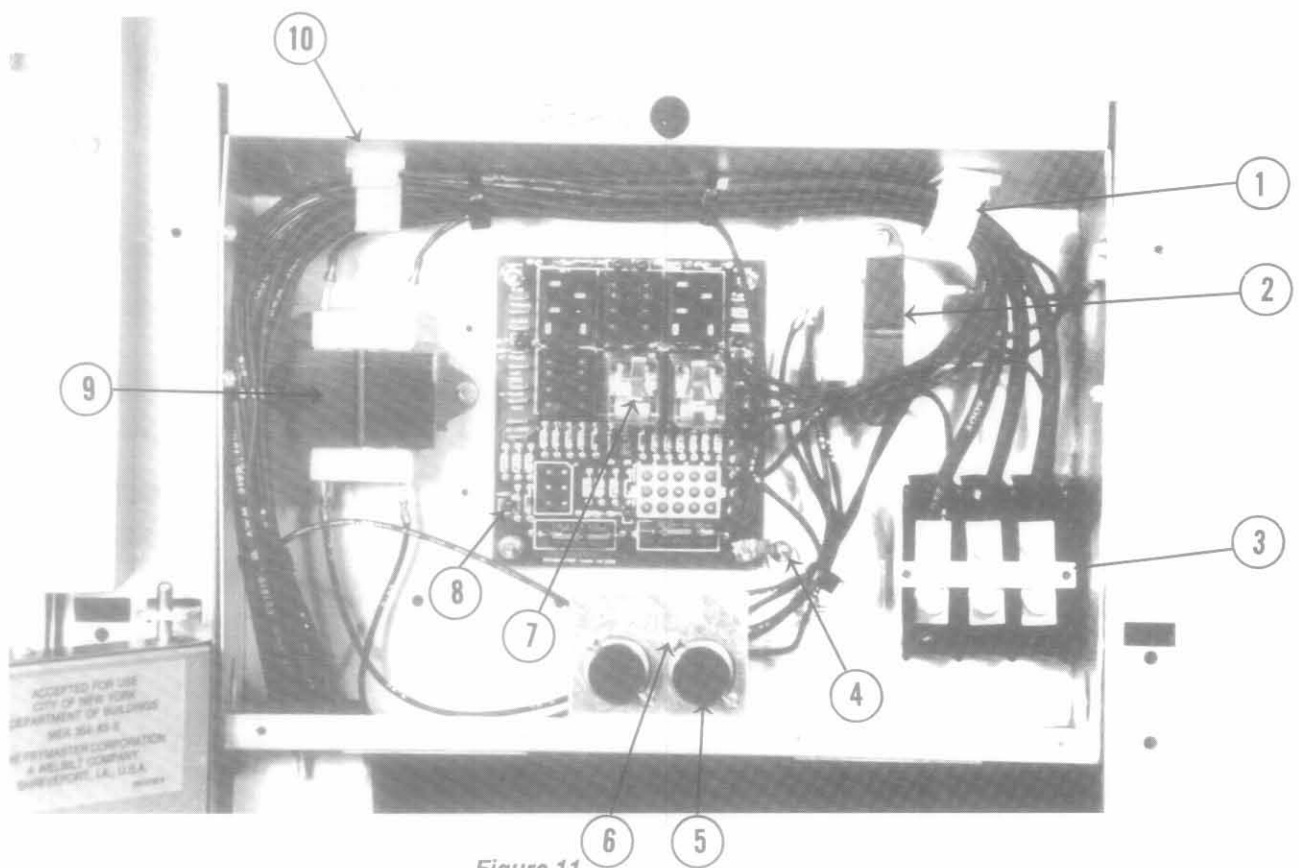

Figure 11
16. PARTS LIST (CONT'D)-Front Component Box and Associated Components (Refer to Figures 11 & 12)